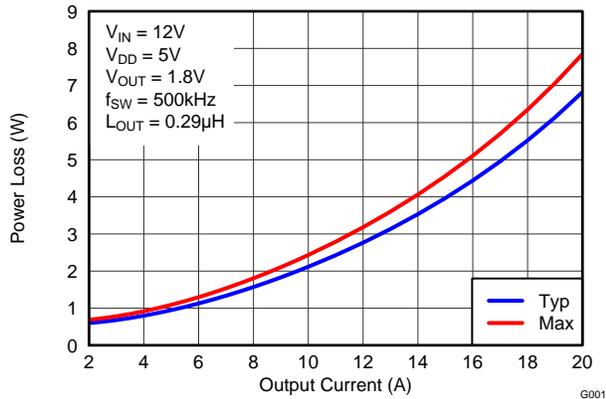
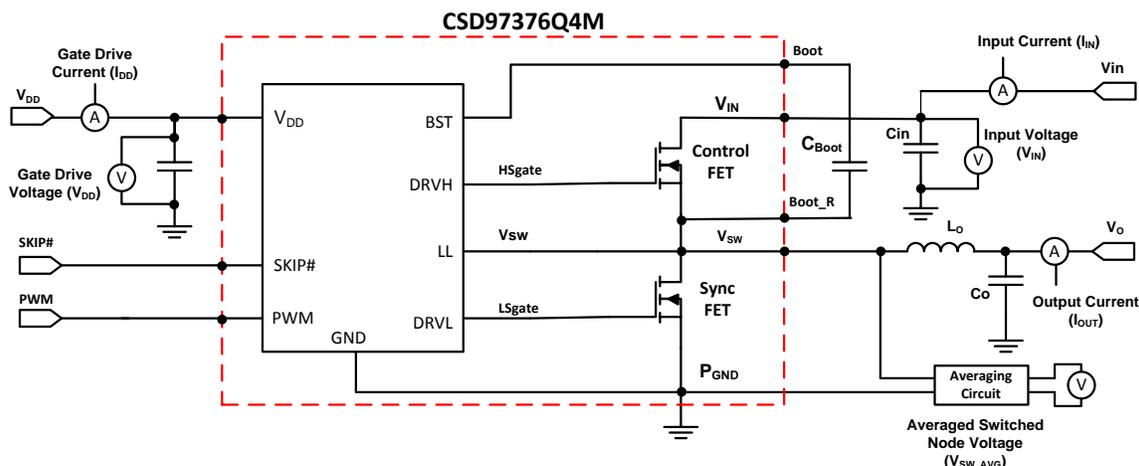

Figure 3. Power Loss vs Output Current
Figure 18. Power Loss Test Circuit
MOSFET centric parameters such as $R_{DS(ON)}$ and Q_{gd} are primarily needed by engineers to estimate the loss generated by the devices. In an effort to simplify the design process for engineers, Texas Instruments has provided measured power loss performance curves. Figure 3 plots the power loss of the CSD97376Q4M as a function of load current. This curve is measured by configuring and running the CSD97376Q4M as it would be in the final application (see Figure 18). The measured power loss is the CSD97376Q4M device power loss which consists of both input conversion loss and gate drive loss. Equation 1 is used to generate the power loss curve.
The power loss curve in Figure 3 is measured at the maximum recommended junction temperature of $T_J = 125^\circ\text{C}$ under isothermal test conditions.
- Typical Power Loss at 10A = 2.1W (Figure 3)